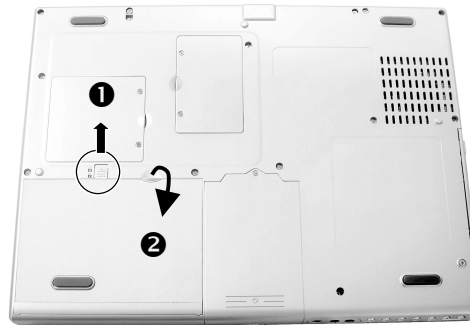

Figure 2-1 Remove the battery pack
2. Slide the release lever to the “unlock” () position (❶), while take the battery pack out of the compartment (❷). (Figure 2-1)